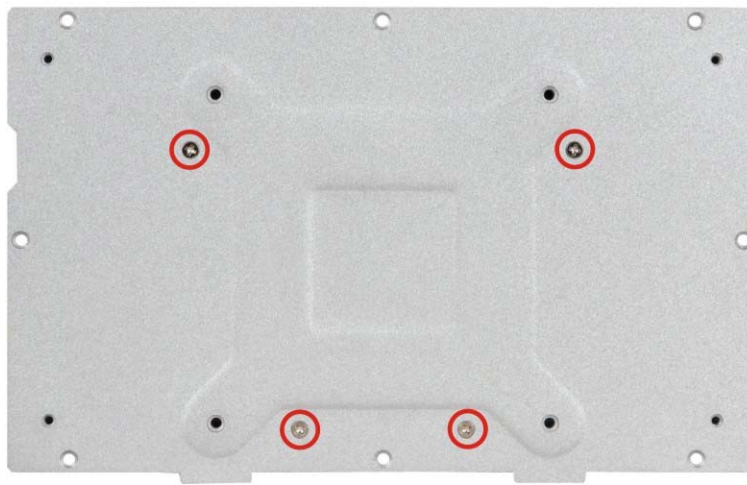

Figure 3-2: HDD Bracket Retention Screws
Step 2: Remove the hard drive bracket from the bottom surface by removing the four retention screws that secure the bracket to the bottom surface (**Figure 3-2**).